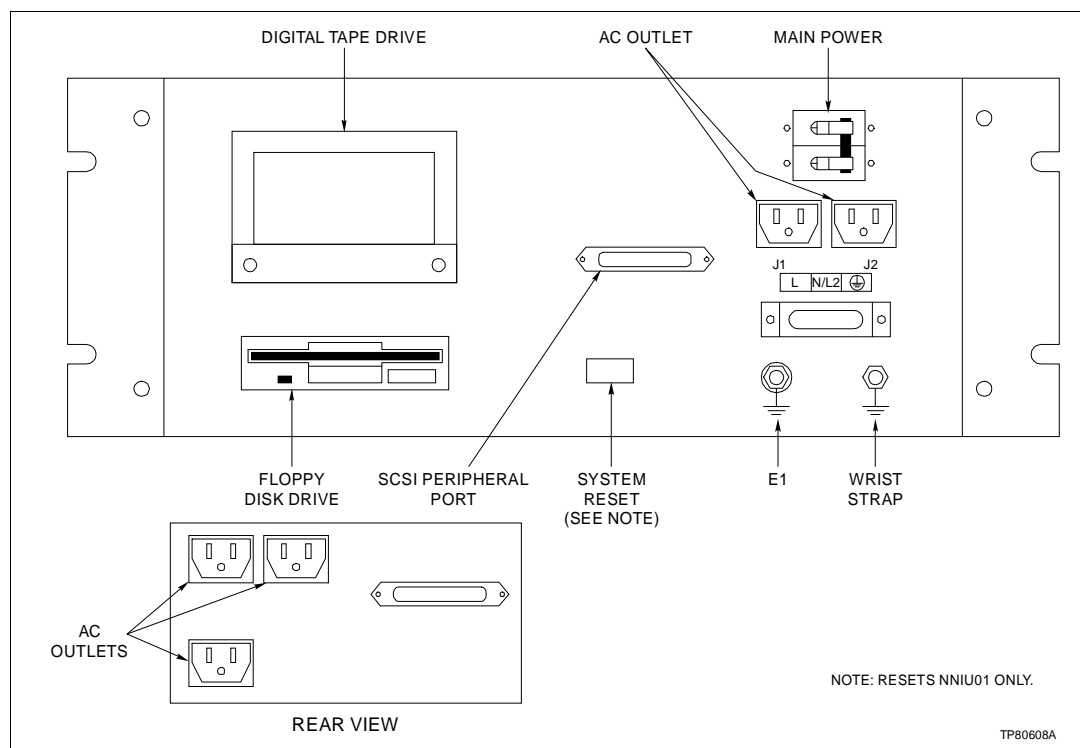
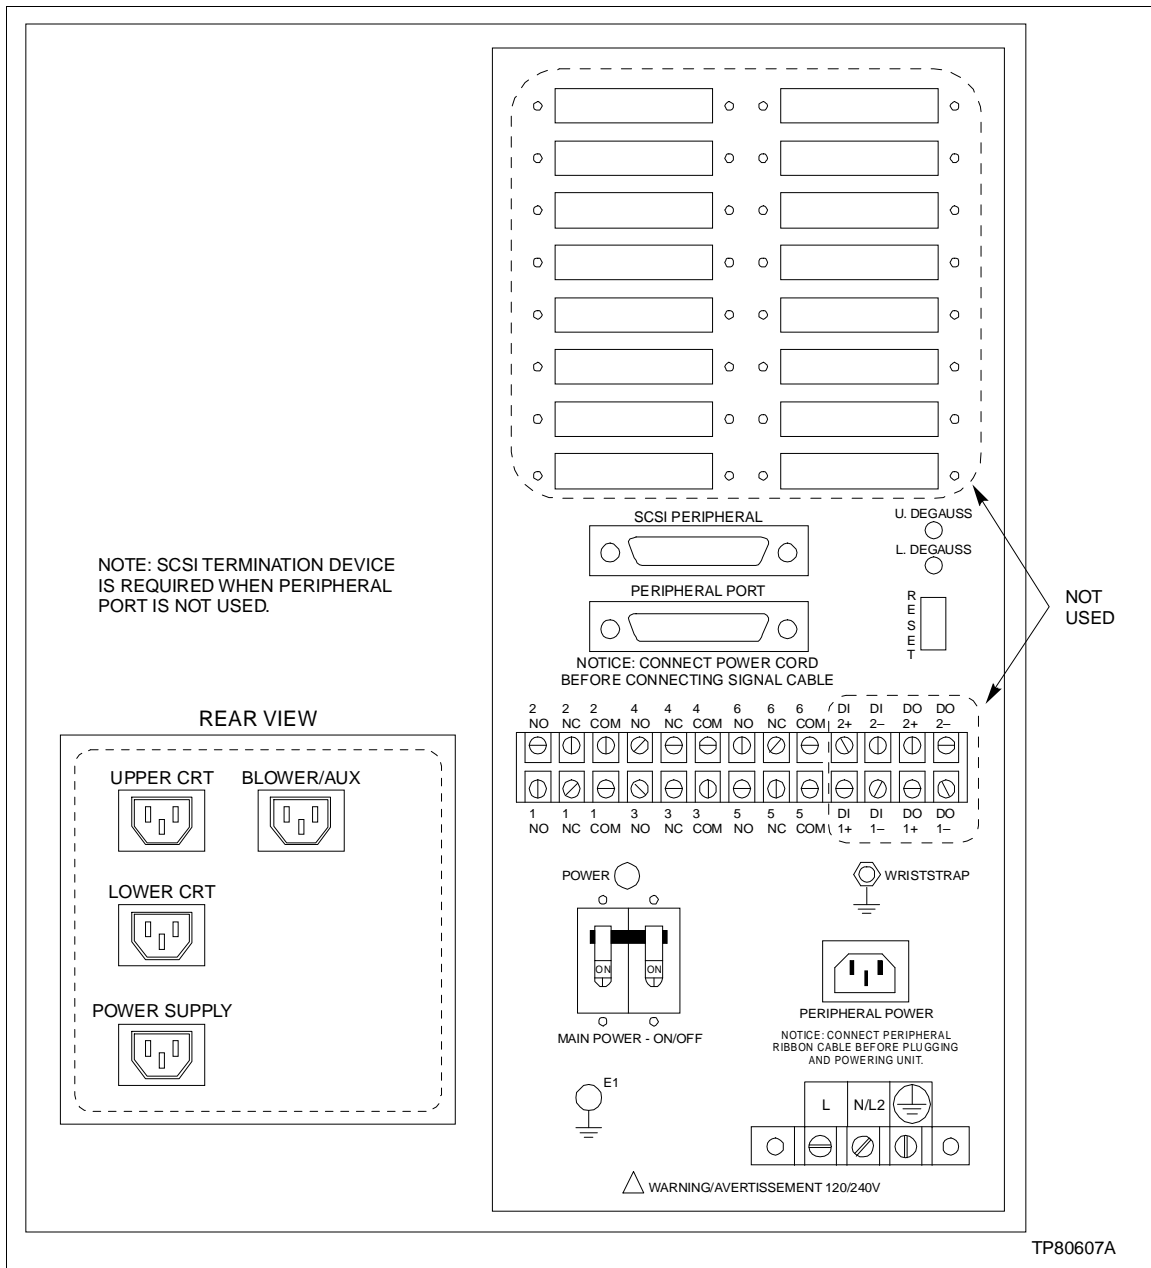

Figure 3-8. Driver Cabinet Power Entry Panel
Figure 3-9. Console Power Entry Panel
1. Wire AC power to the proper terminals at the front of the power entry panel. Refer to Figure 3-8 for AC input terminal location for OIS43 driver cabinets. Refer to Figure 3-9 for AC input terminal location for OIS43 consoles.